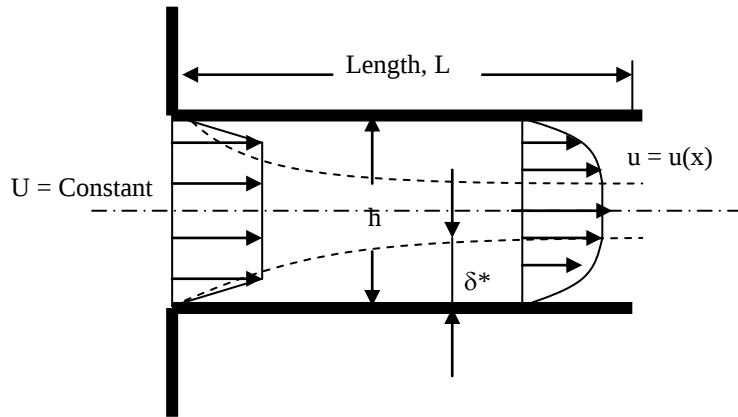

Figure S4
- With reference to Figure S4, derive an expression for the drag force acting on a wall F_F a channel length L in terms of layer thickness, δ^* and layer thicknesses momentum shift θ .